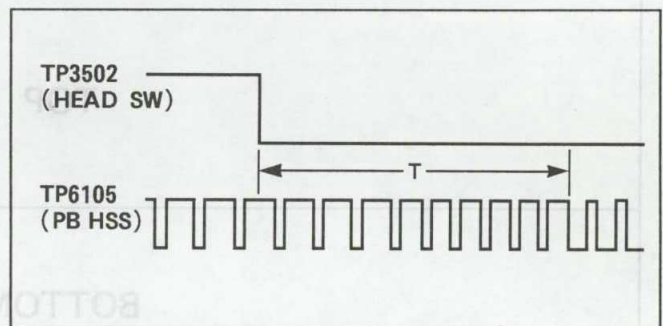

Fig.E1
3. Adjust VR2002 so that T=6.5 ± 0.5H as shown in Fig. E1.